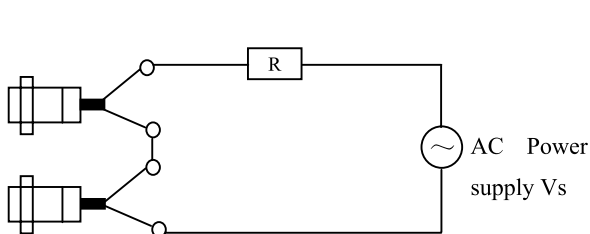
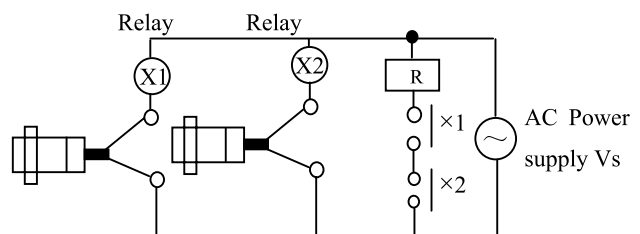

Figure 7
Figure8
5. If the number of serial connect sensor (AC) less than three, connect as Figure 7, otherwise, connect as Figure 8.